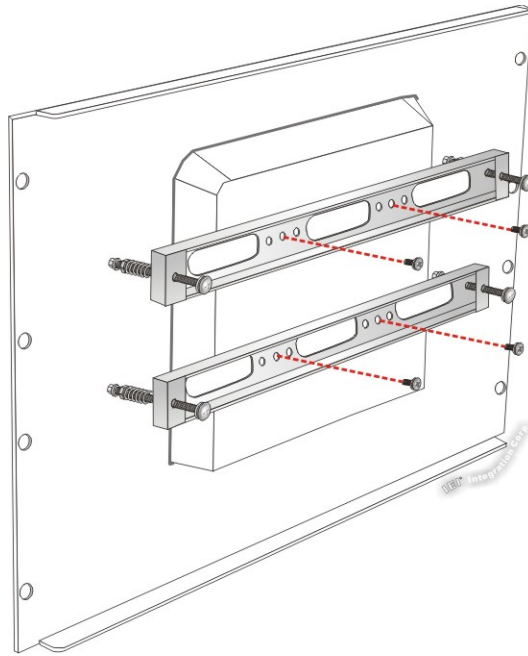

Figure 3-16: Securing Rack Mounting Brackets
- Step 5:** Secure the two rack mounting brackets to the rear of the panel PC by inserting the four retention screws into the VESA mounting holes and tightening them (Figure 3-16).